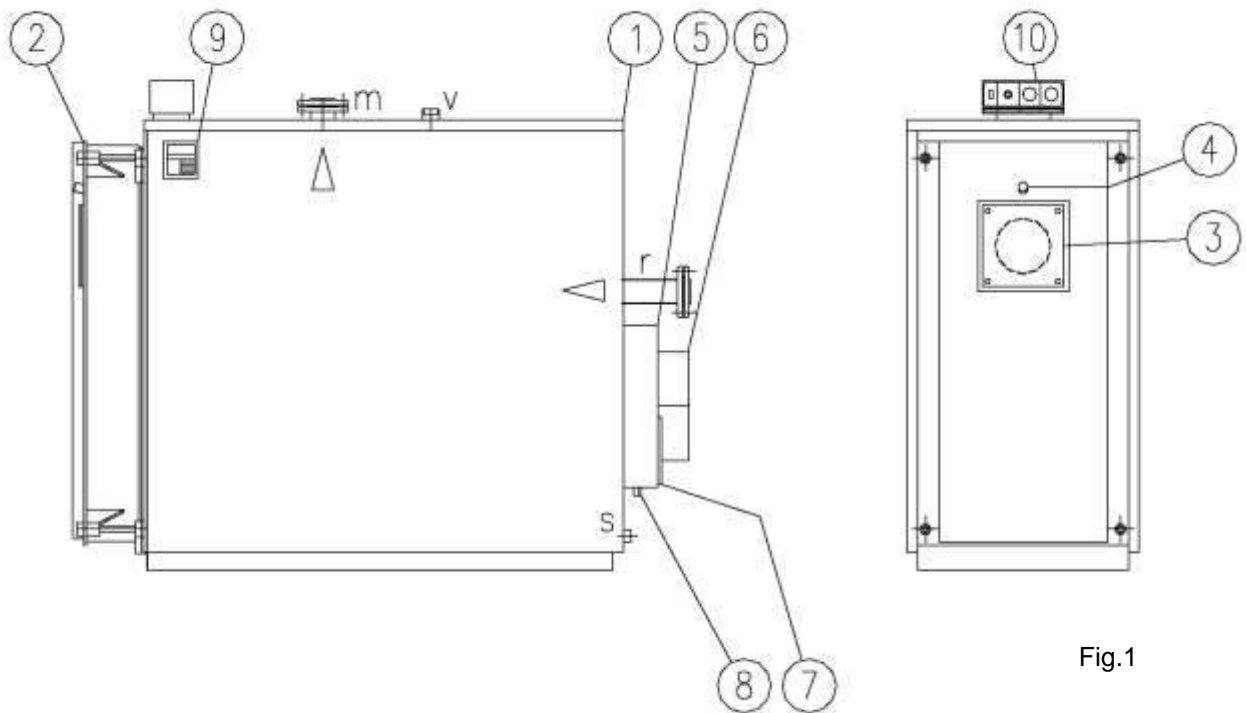

Fig.1
Use the supplied hose to connect the condensation waste outlet of the flue collector (see item 8 Fig.1 on page4) to the neutralising device.